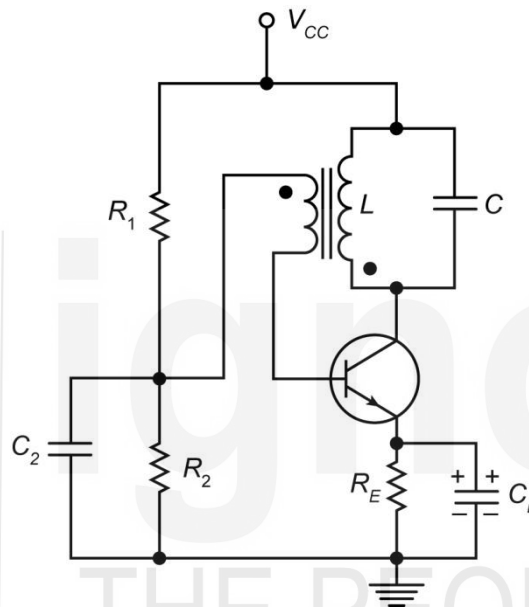

Fig. 11.5: Tuned-collector oscillator.
Fig. 11.5 shows a basic LC -oscillator circuit. It is called tuned-collector oscillator, because the tuned (LC) circuit is connected to the collector. We use a transformer here. The primary of the transformer and the capacitor form the
tuned circuit (or tank circuit) which decides the frequency of oscillation. The secondary winding is connected to the base. You are aware that the voltage in primary and secondary winding of the transformer can have 0° or 180° phase difference depending upon the direction of windings of the primary and secondary coils. On the transformer symbol, the points of equal phase are indicated by the dots near the ends of the two windings. In present case, shown in Fig. 11.5, the primary and secondary voltages are out of phase i.e. have 180° phase difference. Since a phase difference of 180° is provided by the CE transistor amplifier, and an additional 180° by the transformer, the type of feedback is positive. The transistor amplifier provides sufficient gain for oscillator action to take place.
What will be the effect on voltage fed back at the base, if capacitor C_2 is not connected in the circuit shown in Fig. 11.5?